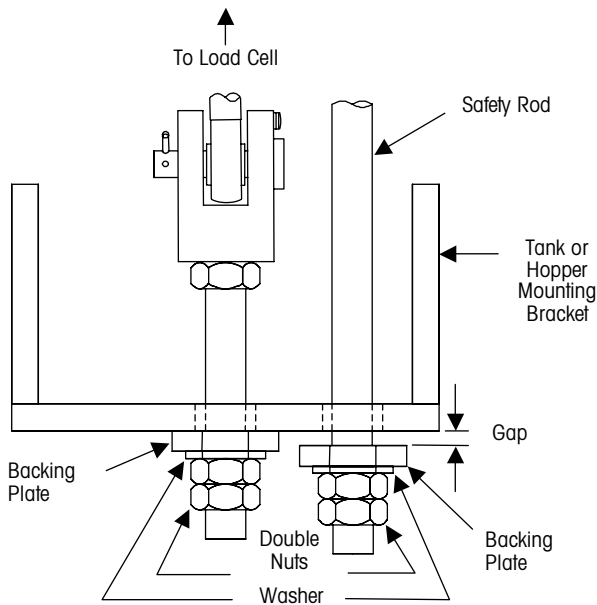

Figure 7-5: Weigh Module Assembly Attached to Lower Support Bracket
5. Install a safety backup next to each weigh module, a safety rod is illustrated here. Leave clearance between the lower support bracket and the washer on the safety rod (see Figure 7-5).